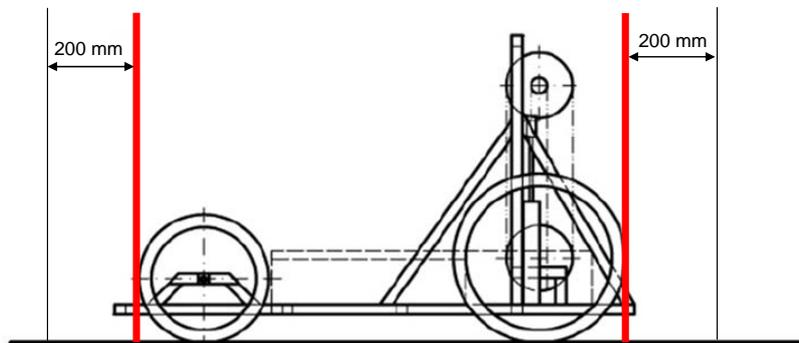

figure 2.
- e) The engine should be placed in the vehicle so that its parts extend max. 200 mm from the farthest points of the front and back wheels. (See figure 2.). Parts not belonging to the engine may extend longer.